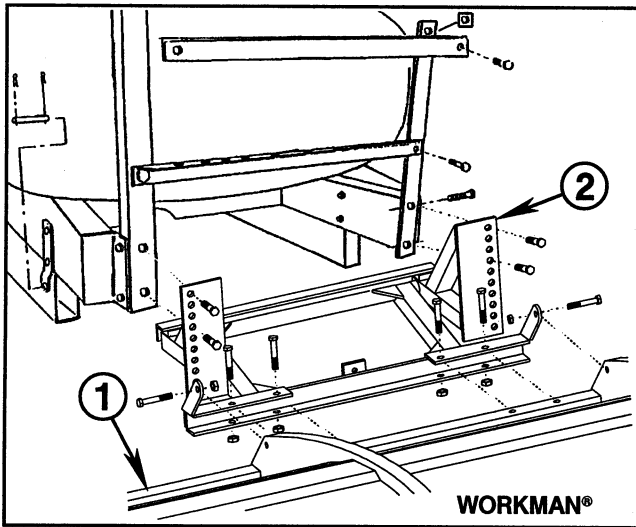

FIG. 4b
**WORKMAN® SPRAY SYSTEM** - Align the bottom hole in Boom Mount Angles with the seventh and tenth holes from the bottom on the Boom Mount. Secure with (4) 1/2" x 1-1/4" hex hd. cap screws and lock nuts. (FIG. 4b)